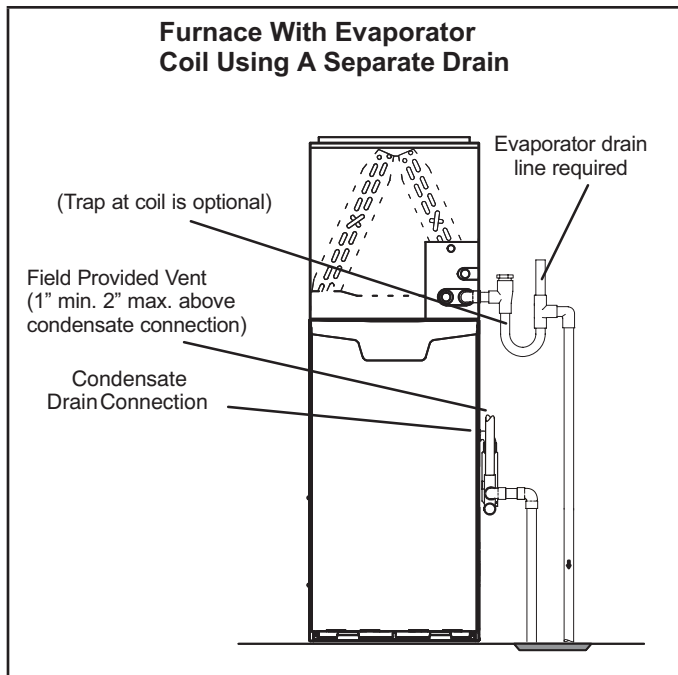
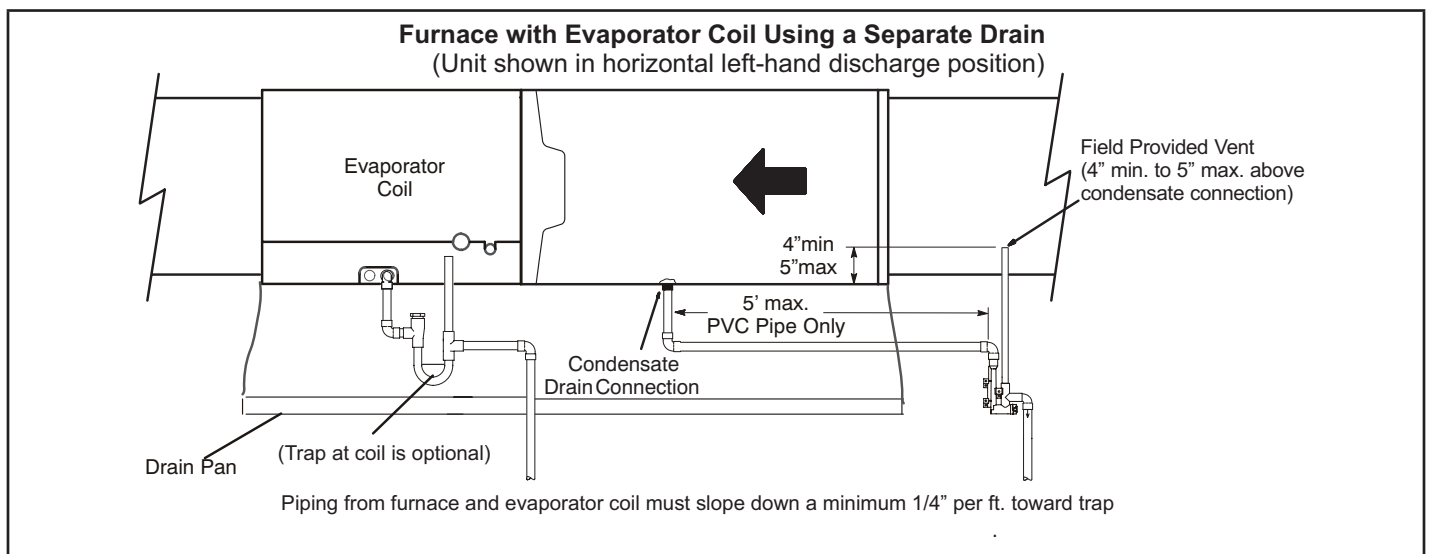
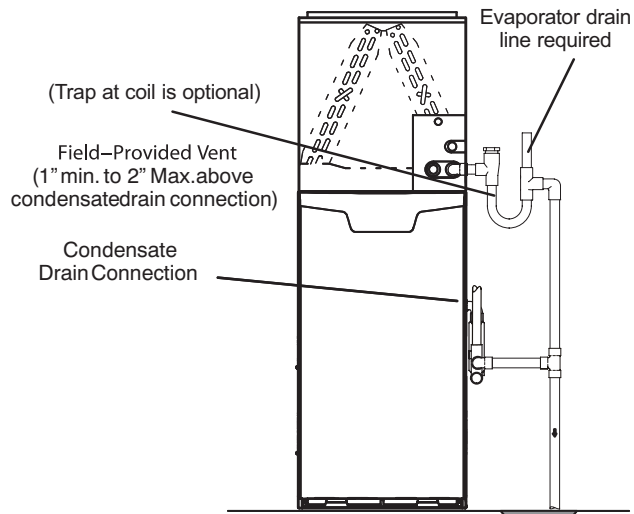

FIGURE 48
FIGURE 50
FIGURE 51
- 5 - FIGURE 48 and FIGURE 50 show the furnace and evaporator coil using a separate drain. If necessary the condensate line from the furnace and evaporator coil can drain together. See FIGURE 51 and FIGURE 52. **Upflow furnace (FIGURE 51)** - In upflow furnace applications the field provided vent must be a minimum 1" to a maximum 2" length above the condensate drain outlet connection. Any length above 2" may result in a flooded heat exchanger if the combined primary drain line were to become restricted. **Horizontal furnace (FIGURE 52)** - In horizontal furnace applications the field provided vent must be a minimum 4" to a maximum 5" length above the condensate drain outlet connection. Any length above 5" may result in a flooded heat exchanger if the combined primary drain line were to become restricted.